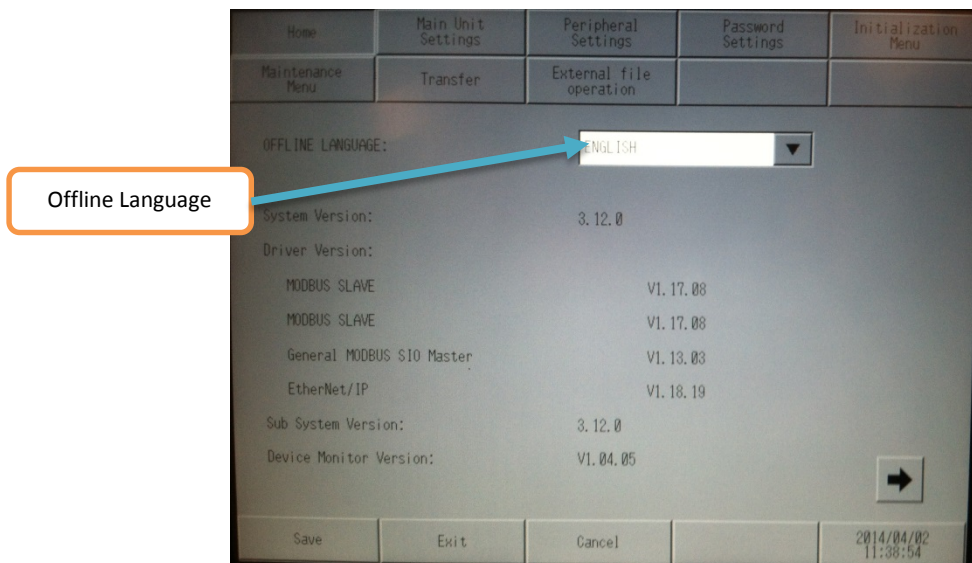

Figure 4: System Configuration Window
5. Once the panel boots into offline mode, the following screen will appear. If language is in Japanese change to English via the dropdown menu under OFFLINE LANGUAGE: (Figure 4)